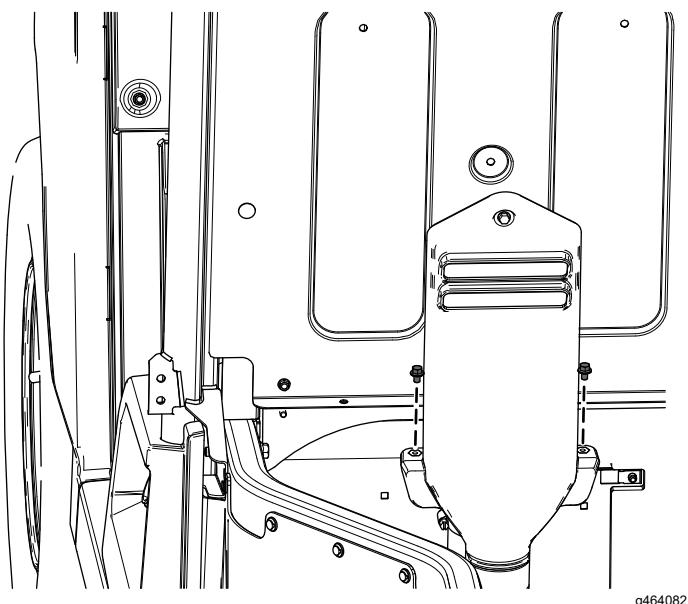

Figure 23
- Remove the 2 flange-head bolts (1/4 x 3/8 inch) from the CVT-intake hood (Figure 23).